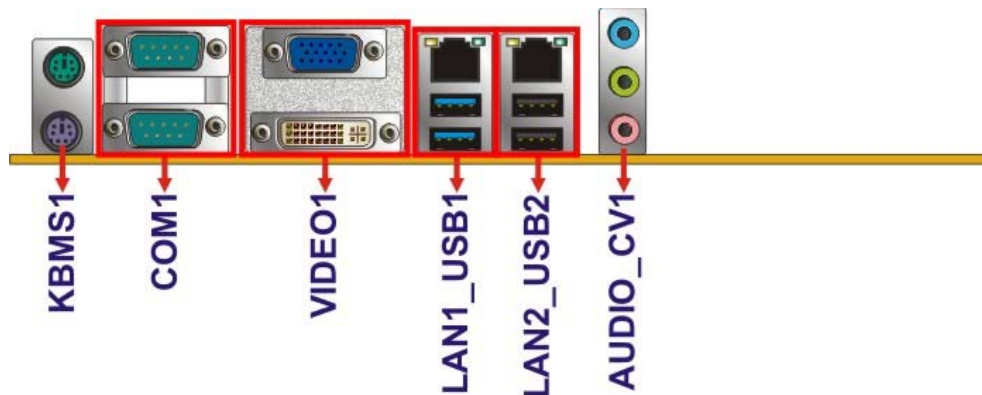

Figure 3-35: External Peripheral Interface Connector
CN Location: See **Figure 3-35**
- CN Location:** See **Figure 3-35**